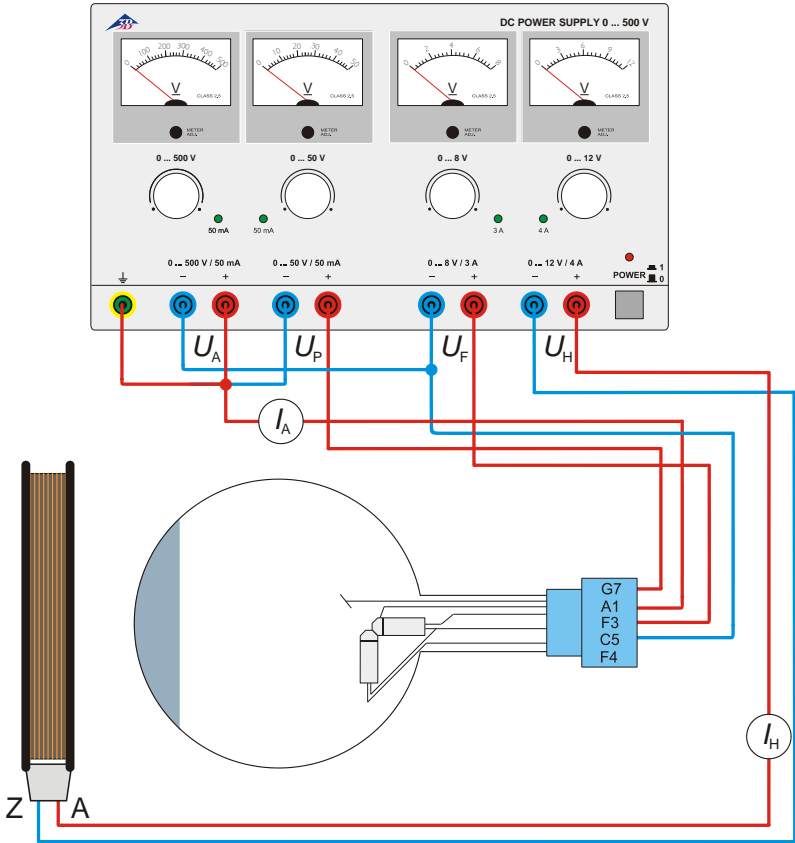

Fig. 5 The effect of an axial magnetic field
- Connect up the tube as in Fig. 5.